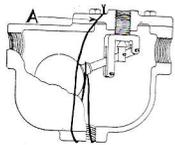

Fig. 44. 0023 Size
Installation—Complete instructions for installing with the Boiler Return Trap are given in Figs. 31 and 33 or on Webster Service Details. During shipment to prevent damage the float size 0023 is held firm by a wire as shown in Fig. 44. *Be sure to cut this wire "A" and withdraw*, otherwise Vent Trap will not operate. It is not necessary to open trap to remove wire.
4. See that wire or pin has been removed from float of Vent Trap so that it is free to operate (as called for in Figs. 44 and 45).